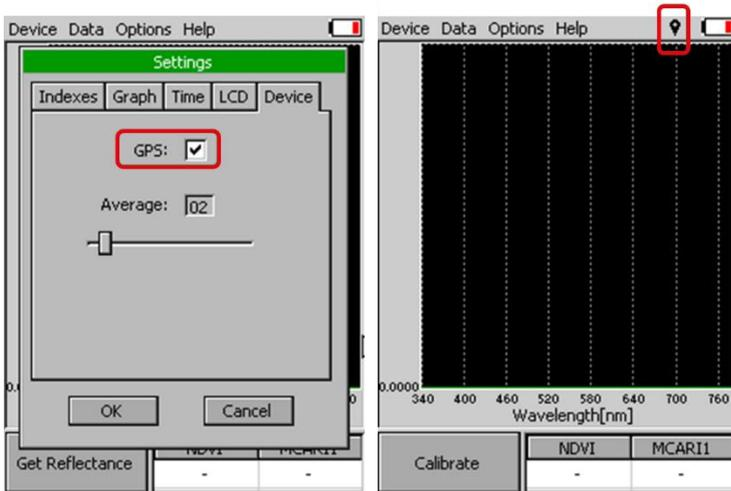

Fig. 39 GPS activation and Active GPS
- Click on the check box for GPS (Fig. 39-A)
- Wait until the GPS position is found. The GPS module is ready when the icon of the position flag, in upper menu, stops flashing (Fig. 39-B).